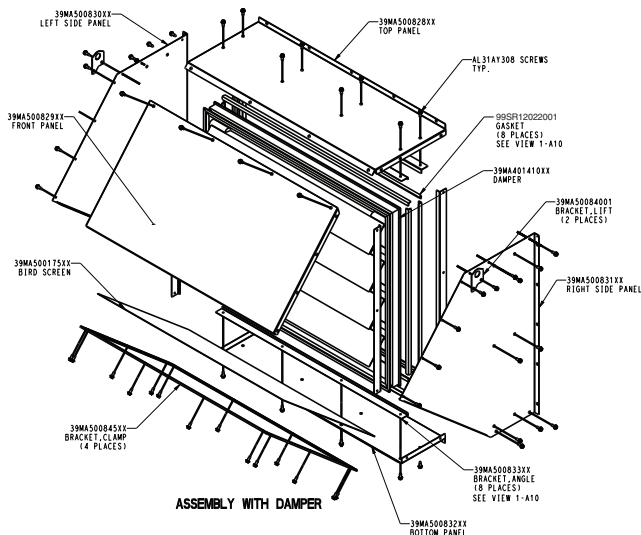

Fig. 71 — Exploded Power Exhaust Hood Assembly with Damper (Size 36 Shown)
- Below is an exploded view of a power exhaust assembly with and without a damper. See Fig. 71 and 72.